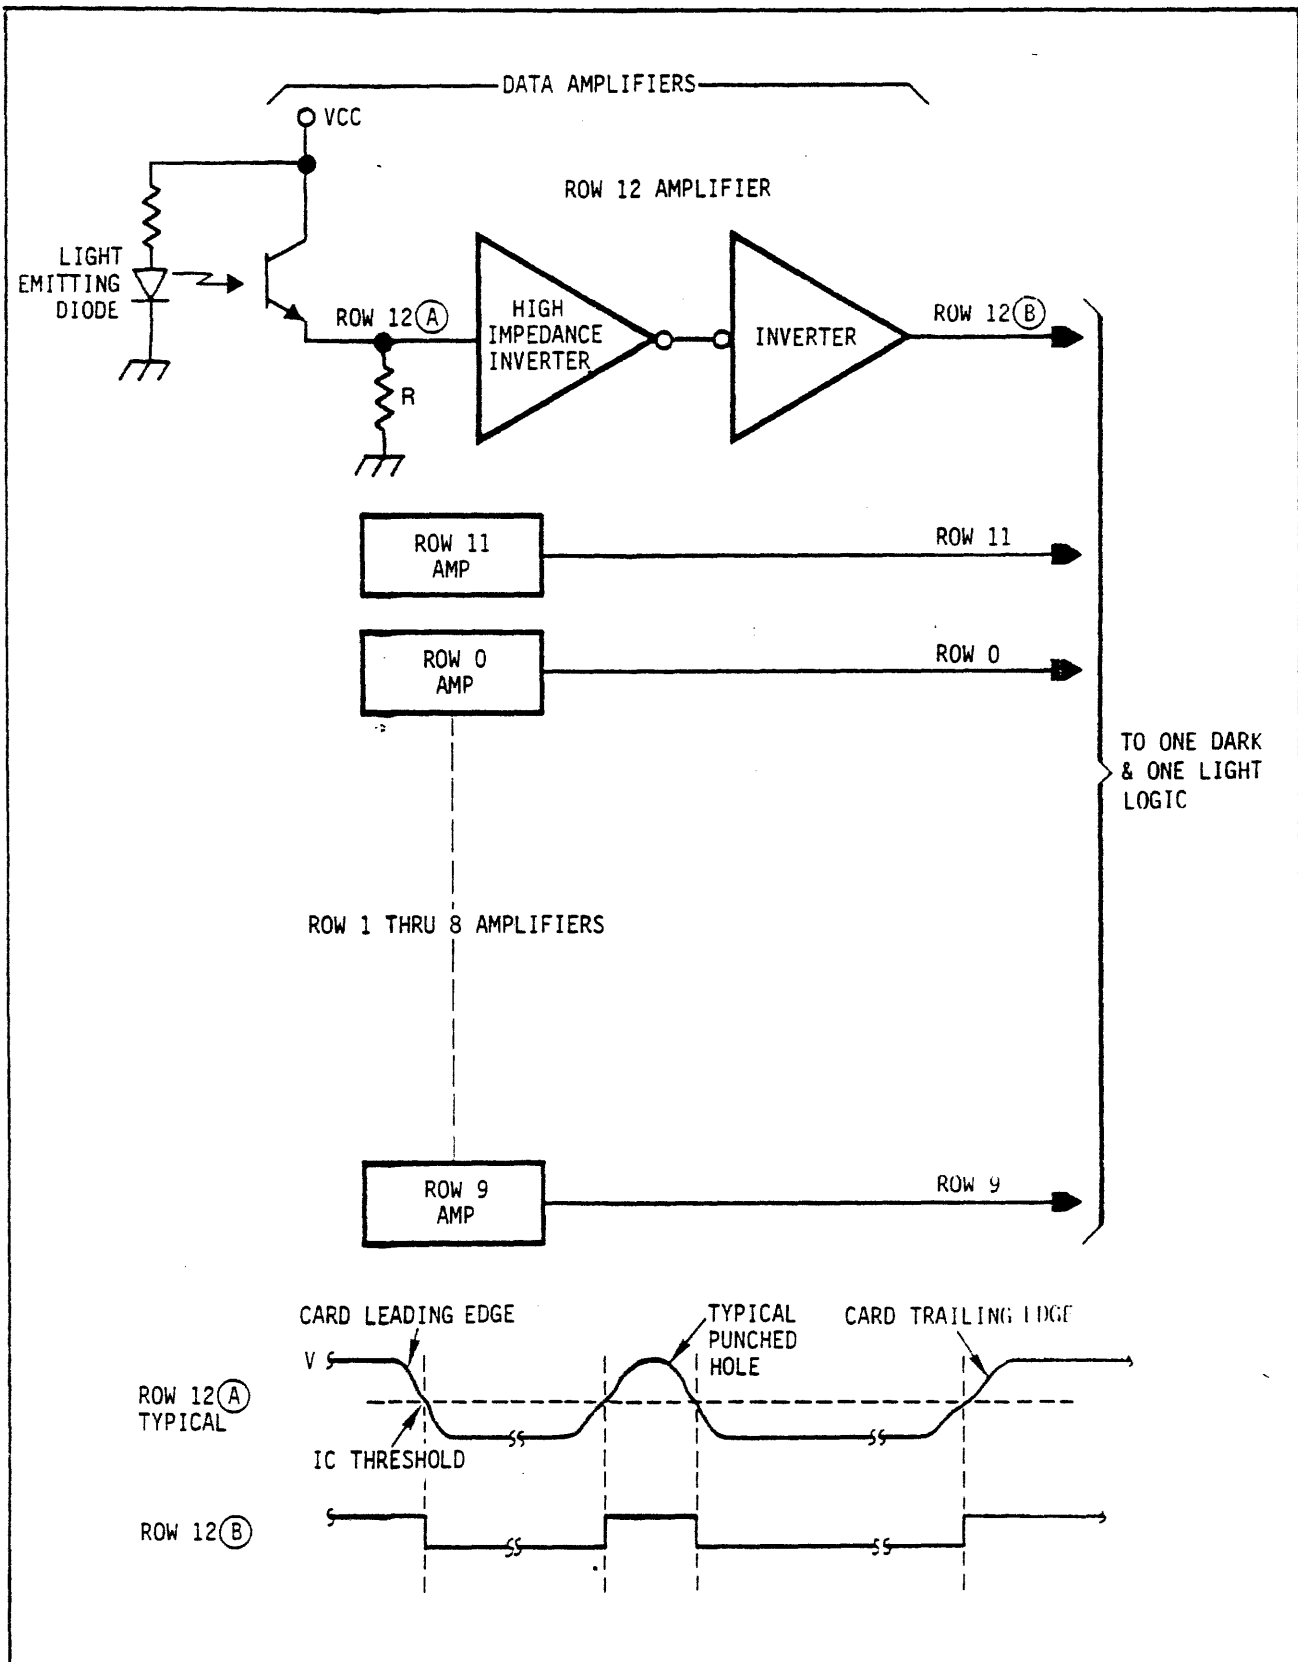

Figure 4-9. Block and Timing Diagram, Data Amplifiers and Inverters
The light station contains one infrared Light Emitting Diode (LED) and the read station one phototransistor for each of the 12 punched card rows. Light emitted by an LED is allowed to pass to its corresponding phototransistor when a punched hole in the tab card is present. Figure 4-9 presents a block diagram and typical waveform for the data amplifiers and inverters. Light reaching a phototransistor is amplified by the phototransistor and converted into an electrical signal at its emitter. A typical emitter waveform is shown as ROW 12 (A). As the leading edge of the card passes over the phototransistor lens, the received light is reduced, thereby causing a reduction in the phototransistor output voltage. The emitter is coupled across pull-down resistor R to the input of a high impedance TTL inverter. When the emitter voltage passes through the switching threshold of the inverter (nominally 1.4 volts) the inverter changes state. The output of the high impedance inverter is amplified by the inverter and then used to drive the one light and one dark logic. Each time the threshold of the high impedance inverter is crossed the device switches states, producing waveform ROW 12 (B) at the output of the inverter.